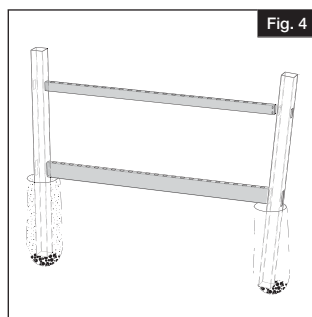

Fig. 4
- Insert top and bottom rails into top and bottom post hole routes of both posts (Fig. 4).